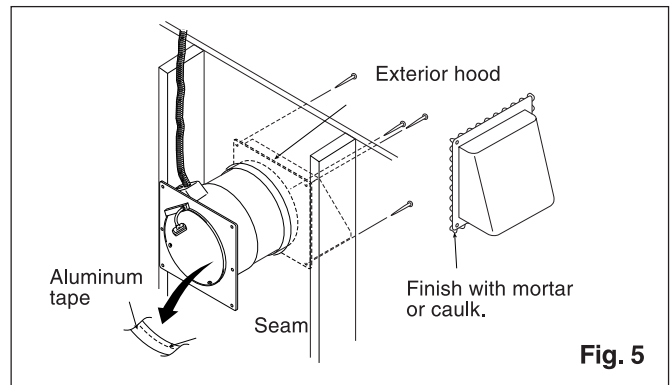

Fig. 5
7. Insert the attached exterior hood from the outside to cover the wall sleeve, and secure it with four screws or nails. Cover the seam between the wall sleeve and exterior hood with aluminum tape, and apply mortar or caulking around the exterior hood flange to prevent rainwater from coming in. (Fig. 5)